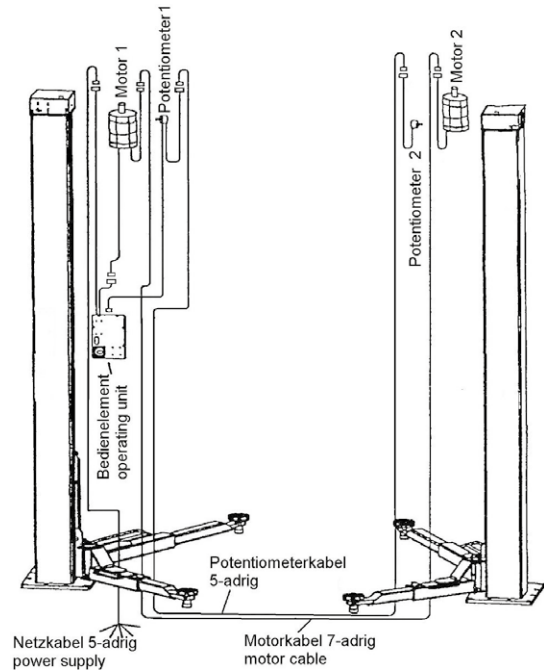

Figure 24: Cable path without using riser and cross-pipe
- Connect the cables according to the drawing (Figure 24).